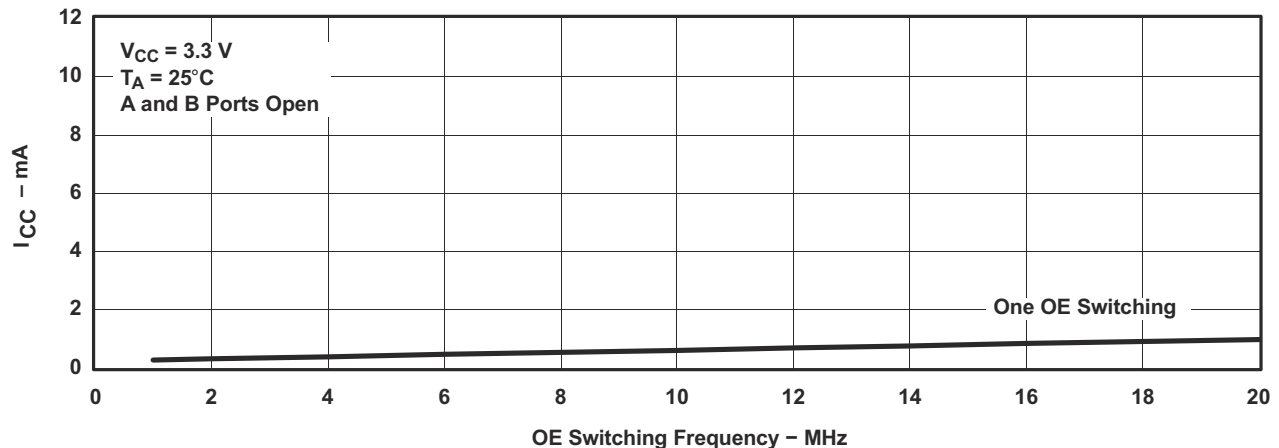

Figure 9-2. Typical I_{CC} vs OE Switching Frequency
(1) V_{IN} and I_{IN} refer to control inputs. V_I, V_O, I_I, and I_O refer to data pins.
(2) All typical values are at V_{CC} = 3.3 V (unless otherwise noted), T_A = 25°C.
(3) For I/O ports, the parameter I_{OZ} includes the input leakage current.
(4) This is the increase in supply current for each input that is at the specified TTL voltage level, rather than V_{CC} or GND.
(5) This parameter specifies the dynamic power-supply current associated with the operating frequency of a single control input (see Figure 9-2).
(6) Measured by the voltage drop between the A and B terminals at the indicated current through the switch. ON-state resistance is determined by the lower of the voltages of the two (A or B) terminals.